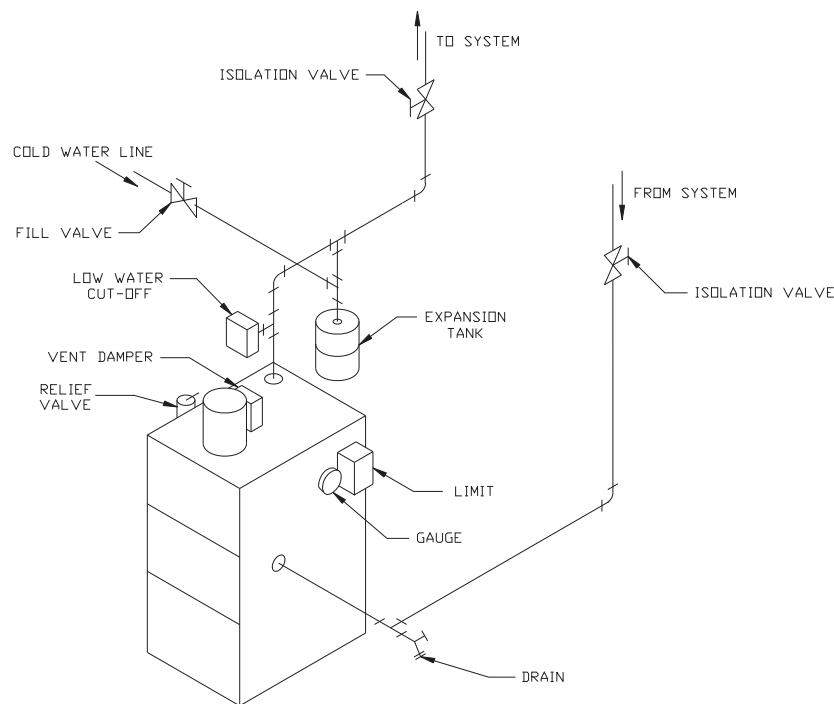

FIGURE 16: GRAVITY PIPING
- 7) Gravity Hot Water Systems - The CWI is suitable for installation in a gravity hot water system. Figure 16 shows piping for a gravity hot water boiler. The circulator, 1-1/2" x 2" bushings, and 1-1/2" piping are removed and the system piping is run directly to the 2" supply and return tapings on the boiler. If isolation valves are installed, they should be gate valves or "full port" ball valves.